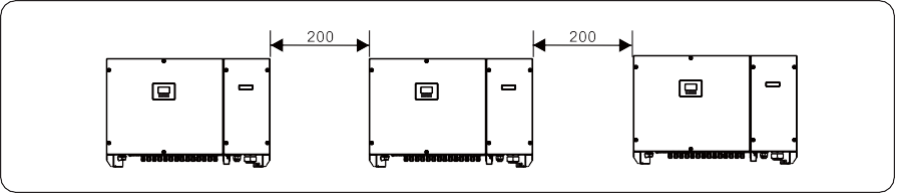

Figure 4.5 Installation along the same line (unit: mm)
- c. When installing multiple inverters, install them along the same line (as shown in Figure 4.5) if sufficient space is available, and install them in triangle mode or in stacked mode (as shown in Figure 4.6) if no sufficient space is available. The installation modes ensure sufficient space for installation and heat dissipation.